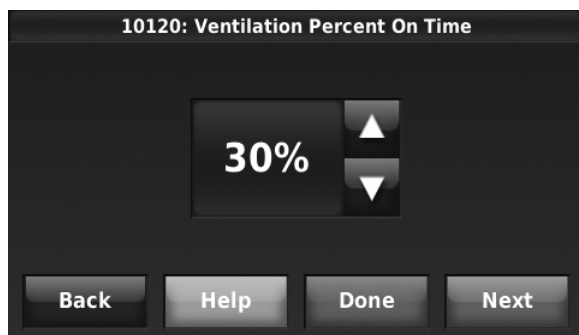

Fig. 151.
8. If Percent On Time was selected for ISU 10050, select the Ventilation Percent on Time. See Fig. 151.